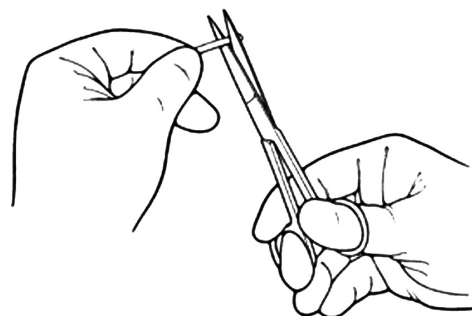

Figure 4-30. Trim Tubing
1. Using clean, well-cutting scissors, trim tubing lengths squarely to fit patient's anatomy. (Figure 4-30)